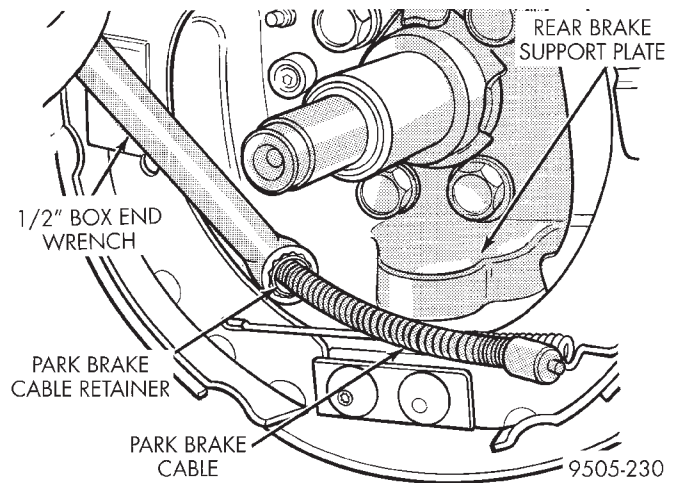

Fig. 144 Park Brake Cable Removal From Brake Support Plate
(26) Remove park brake cable (Fig. 144) from rear brake support plate. Park brake cable is removed from brake support plate using a 1/2 in. wrench as shown in (Fig. 144) to compress locking tabs on park brake cable retainer.